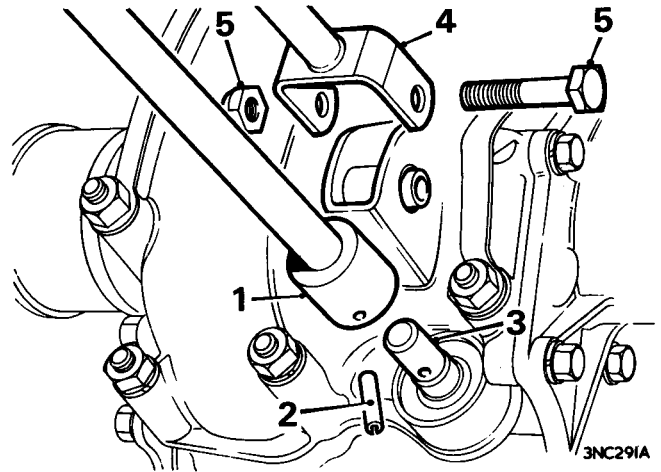

Fig. A.34
23. Drift out the roll-pin securing the remote control extension rod to the selector shaft, see Fig. A.34.
24. Remove the securing nut and bolt from the remote control steady fork on the final drive housing and detach the fork, see Fig. A.34.